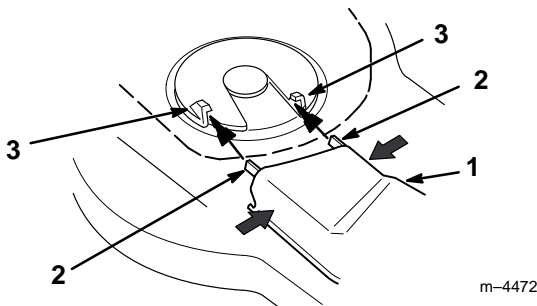

Figure 32
- Replace the belt cover by squeezing the sides together and inserting the tabs on the belt cover into the brackets on the engine base (Fig. 32).